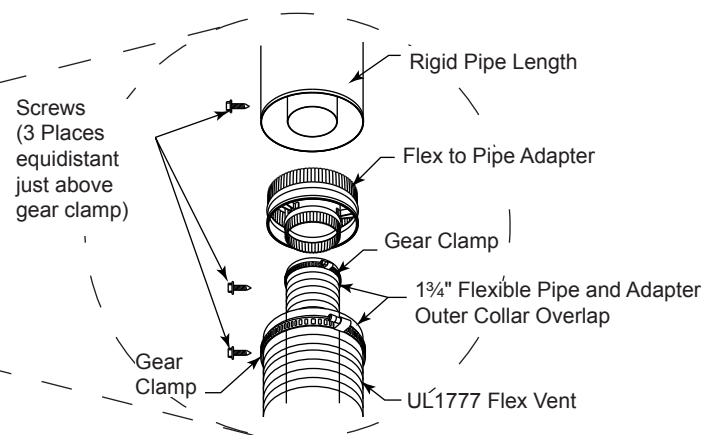

Figure 44 -
2. Review *Figure 44* and corresponding instructions for proper overlap, clamp and screw placement.